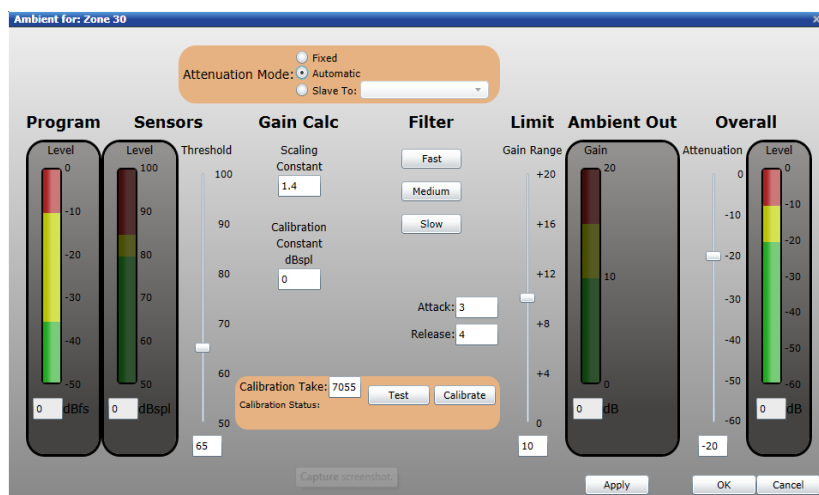

Figure 6-82: Ambient Analysis
DNA series amplifier frames are equipped with ambient noise compensation (Ambient Analysis) capabilities utilizing the eight (8) built-in ambient sensor inputs. Ambient Analysis adjusts the output attenuation of a channel in response to ambient noise level measured in the area served by the channel. One (1) or two (2) ambient noise sensors can be used for each channel. Channels can also be slaved to other zones. Click the **Ambient** button for the channel you wish to configure to open a window such as that shown in Figure 6-82.
The **Scaling Constant** determines the amount of ambient noise level that will result in the output level to increase by 1 dB. A scaling constant of 1 will result in the output level increasing by 1 dB for each 1 dB increase in ambient sensor level. Figure 6-82 shows a scaling constant of 1.4. With this setting, a 1.4 dB increase in ambient sensor level will result in a 1 dB increase in output level up to the point where the **Limit** has been reached.
The limit sets the maximum amount of gain that can be applied through the ambient analysis compensation process. The amount of gain available is determined by the attenuator setting of the **Overall** attenuation slider. For example, if the channel out slider is set to  $-20\text{dB}$  as shown in Figure 6-82, then the maximum available setting for the Limit slider will be  $+20\text{dB}$ . Setting the Limit to  $+12\text{dB}$  will cause the output level to be increased by a maximum of  $12\text{dB}$  above the setting of the **Overall** attenuation slider. Thus, with very loud ambient noise levels the output level will be effectively set to  $-8\text{dB}$  and reduced to  $-20\text{dB}$  when the ambient noise level is very low or has dropped below the threshold. The ambient noise compensation will be continually adjusted within this range as long as the noise level remains above the threshold but below the amount required to drive the system to maximum level.